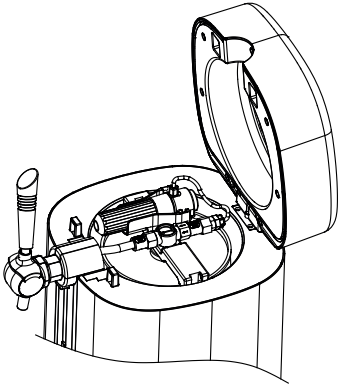
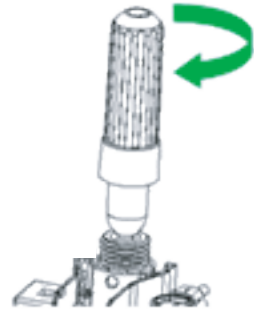

Figure 14
Figure 16
4. Turn the pressure relief valve assembly from the inside of the top cap assembly to the outside at an appropriate angle, the maximum angle should not exceed 90 degrees (as shown in Figure 14). Then unscrew the cylinder sleeve, insert a 16g CO₂ cylinder (3 CO₂ cylinders attached) into the cylinder sleeve (as shown in Figure 16) and then carefully and quickly tighten the cylinder sleeve (clockwise) (as shown in Figure 16) until you hear a “click”, indicating that the cylinder seal has been pierced and the CO₂ gas can flow freely. Then rotate the pressure reducer assembly upwards and snap it into the top cover assembly. If you need to replace the cylinder, follow the steps in reverse (make sure the gas has vented before replacing the cylinder).